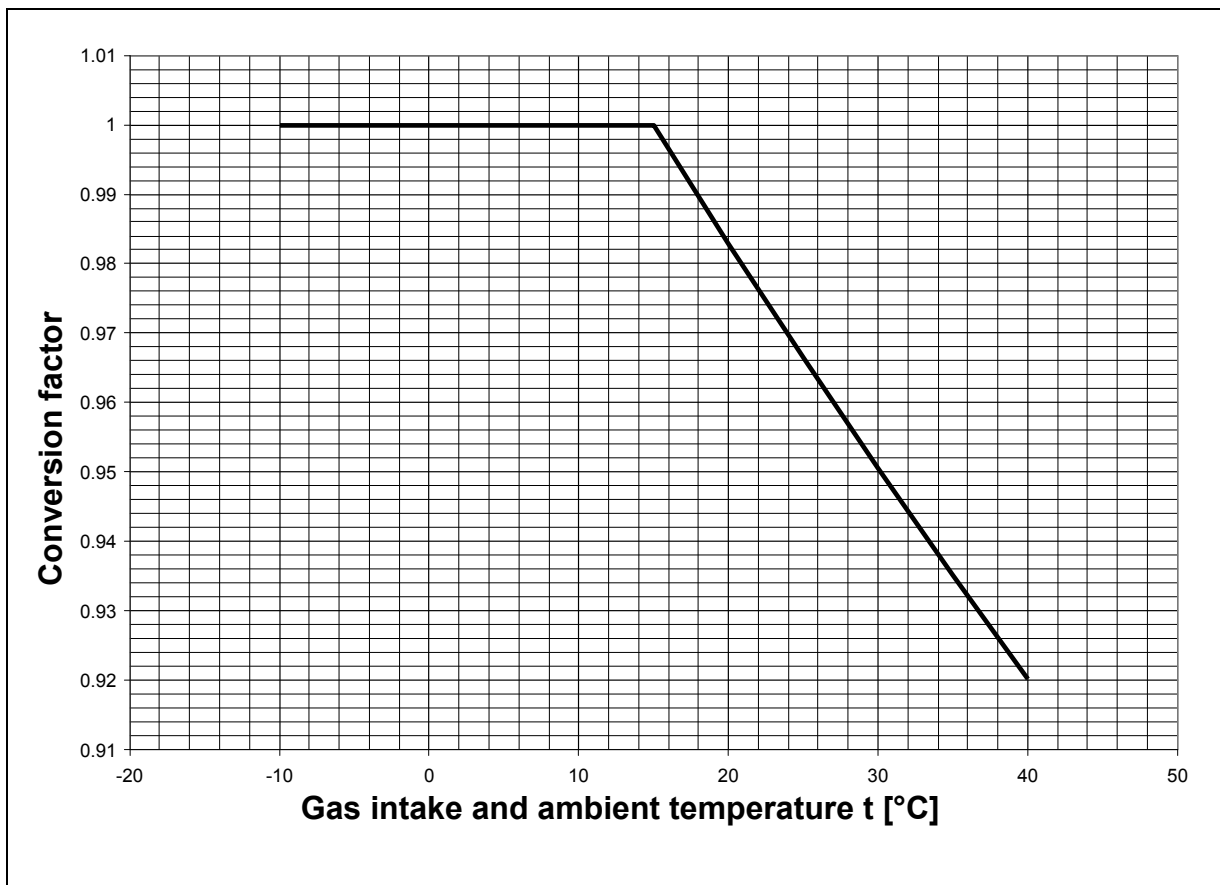

Fig. 3: Permissible total differential pressure / conversion factor
- are designed for continuous operation; in case of increased turn-on frequency or increased intake and ambient temperature the limiting overtemperature of the winding and the bearings must not be exceeded (operation only according to "Fig. 3", page 9).
IMPORTANT: For the max. permissible total differential pressure at temperatures other than +15°C [+59°F] see "Fig. 3", page 9.